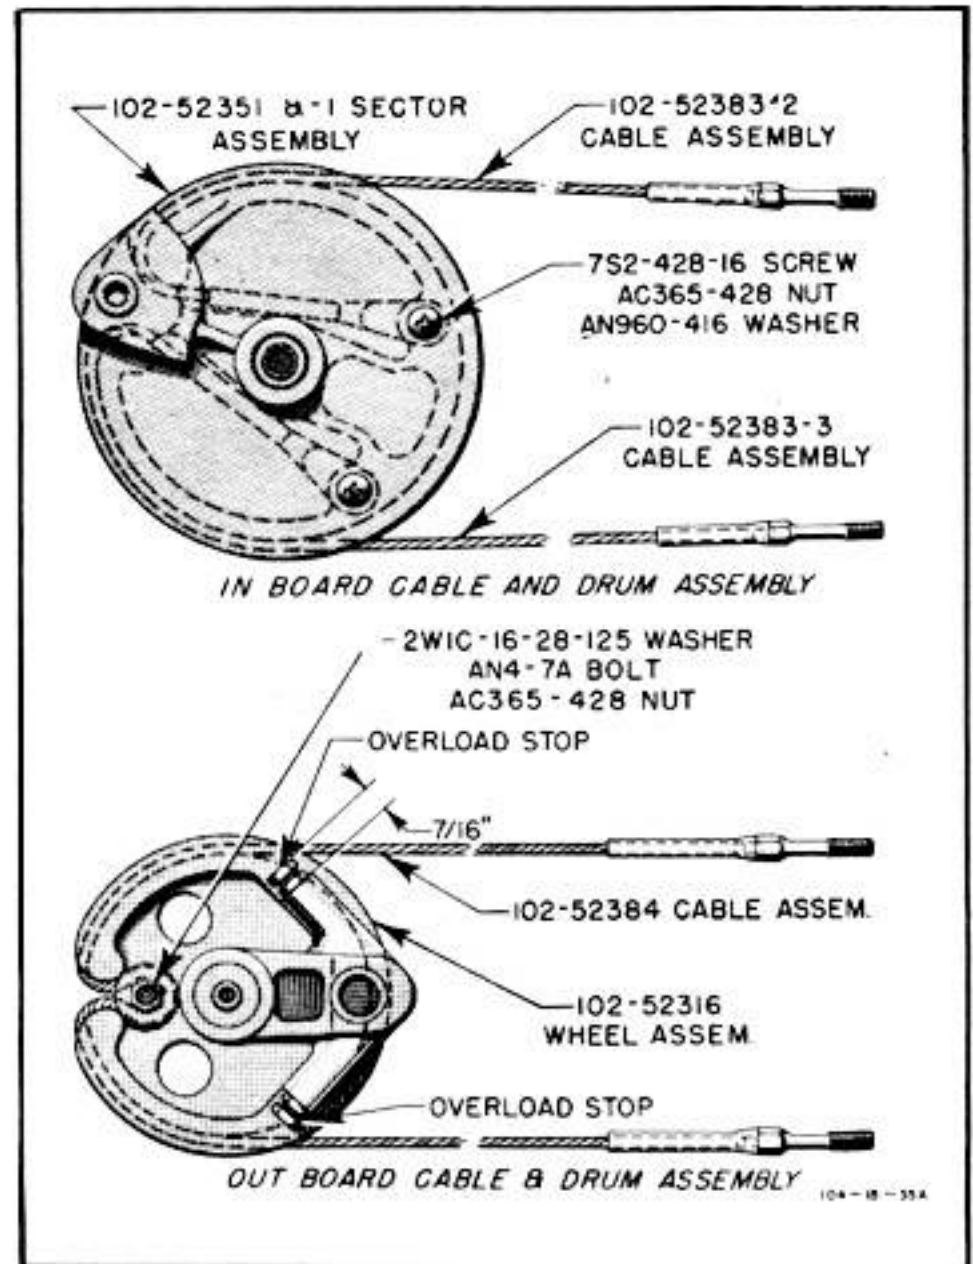

Figure 102—Aileron Cable Sectors
(1) DESCRIPTION.—The movement of the ailerons is controlled by the lateral movement of the stick. The ailerons are not differentially controlled. Movement of the control stick simultaneously imparts movement to both ailerons from a V-shaped bellcrank on the aft end of the control stick torque tube. Linkage attaches the aileron bellcrank to the inboard cable sectors, fastened to the rear spar, and by means of cable imparts the movement of the control stick to the outboard cable sectors. (See figure 102.) The outboard sectors impart the movement to a fork and block assembly integral with the aileron. (See figure 104, detail A.) The aileron bellcrank has three link attachment holes on each arm. By attaching the link at the desired hole, aileron travel of 10, 12, or 15 degrees up and down can be obtained. Aileron travel is limited by adjustment bolts located at the base of the control stick. Access to the aileron cables is gained by removing the aft wing-to-fuselage fairing and disconnecting the flap actuating linkage.